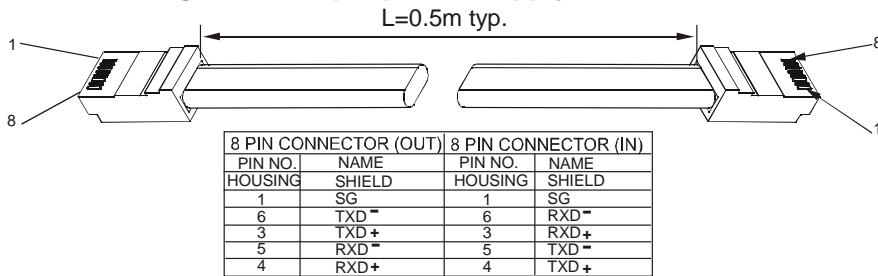

Fig.8-6: Serial Link Cable with RJ-45 shielded connectors (P/N: GEN/RJ-45)
- Using the “Linking” cable (Refer to Fig. 8-6), connect each unit J3-OUT connector to the next unit J3-IN connector.